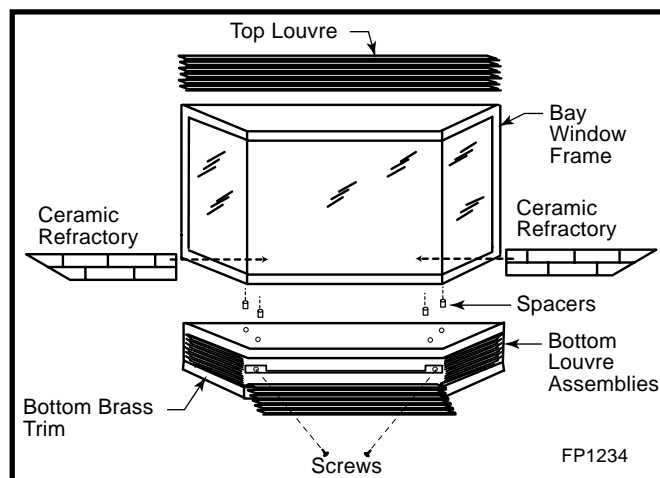

Fig. 56 Bay window installation.
**Installation** Refer to Figure 56